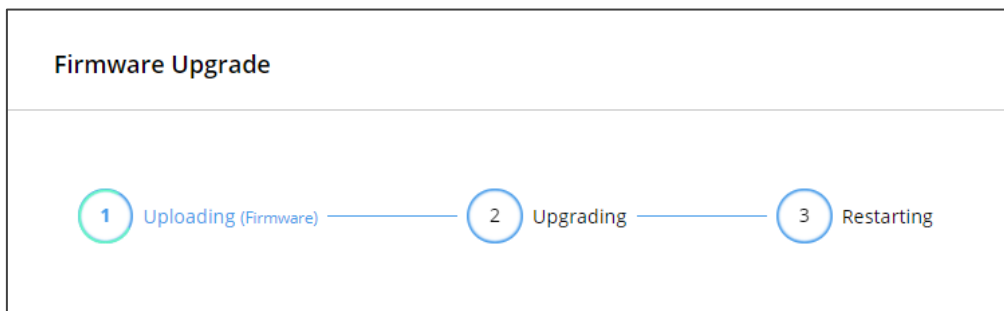

Figure 23:Firmware Upgrade Process
2. Under General, click **Update**, open the relevant firmware file, and follow the instructions. The upgrade process (Figure 23) takes approximately 30-60 seconds.